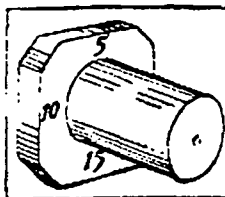

Fig. 2
3. Use of pin with square head (Fig. 2) which allows raising of rear shoe (forward acting shoe) of front brakes either .015" or .020". The square head overrides any depression worn in shoe support brackets.